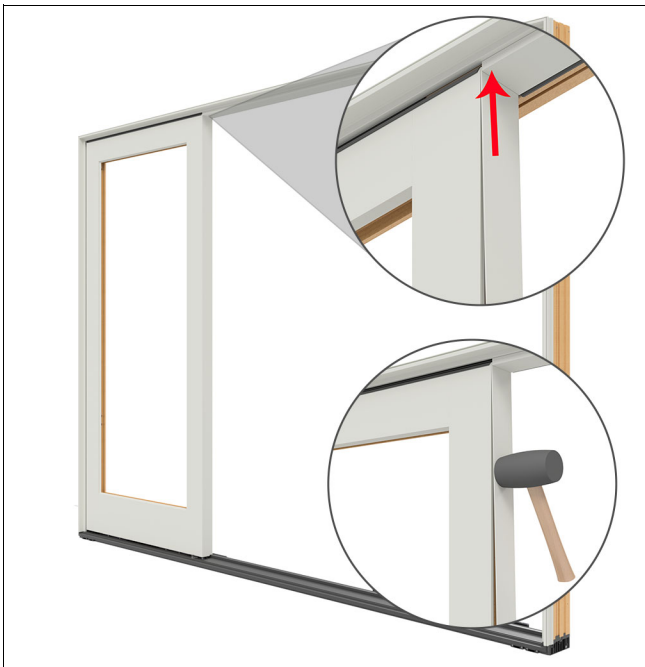

Figure 38
11. Install the aluminum stationary stile edge cover. The edge cover will slide up in between the head jamb parting stop and the stationary panel. Tap into place with a rubber mallet. See Figure 38.